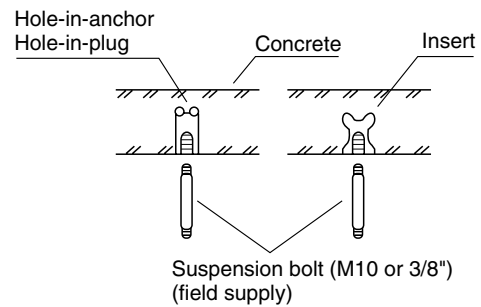

Fig. 3-121
- (2) Drill holes at the 4 points indicated on the full-scale diagram.
- (3) Depending on the ceiling type:
- a) Insert suspension bolts as shown in Fig. 3-121.
- (4) Screw in the suspension bolts, allowing them to protrude from the ceiling as shown in Figs. 3-121 and 3-122. The distance of each exposed bolt must be of equal length within 50 mm. (Fig. 3-123)